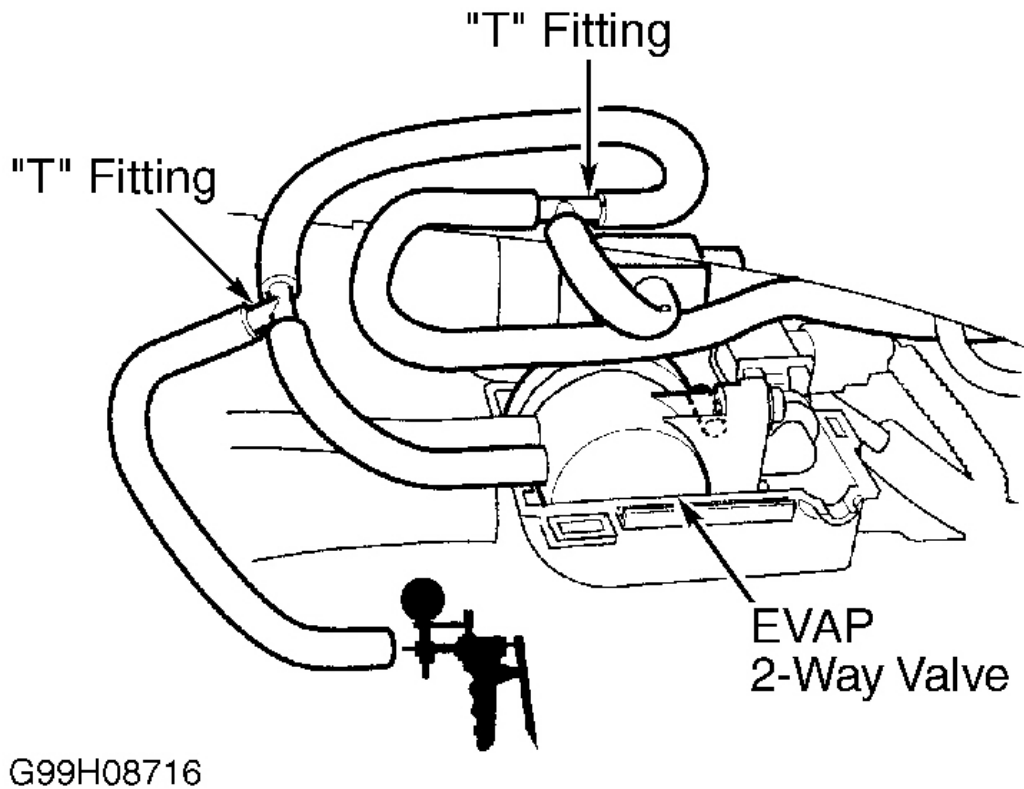

Fig. 13: Connecting 2 "T" Fittings & Vacuum Pump To Hoses
1. Turn ignition off. Connect 2 "T" fittings and vacuum pump to hoses between EVAP canister and EVAP 2-way valve as illustrated. See **Fig. 13** . Connect fuel tank pressure (FTP) sensor to one "T" fitting and vacuum pump to second "T" fitting. See **Fig. 13** . Remove vent hose from EVAP canister vent shut valve and cap open port. See **Fig. 14** . Turn ignition on and go to next step.